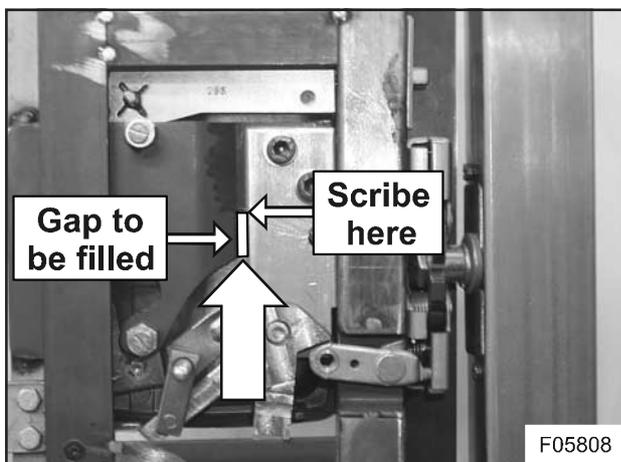

Figure 22: Gap between lock assembly mounting plate and adapter A
- 1) Temporarily install the outside housing assembly onto the door using the two salvaged handle spacers VH 10715866 (item #5, Figure 16). Position adapter linkage A as shown in Figure 22. Make sure the adapter linkage sits up flat against the rearward doorframe. Scribe a mark on the adapter to indicate the beginning of the gap between lock assembly mounting plate and the adapter (see bold arrow). In step two of this procedure this gap will be filled with a piece of flat stock.